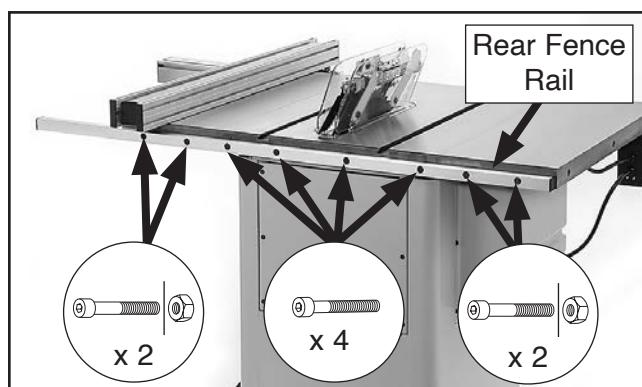

Figure 22. Rear fence rail mounting locations.
12. Install rear fence rail on rear of table using (8) M8-1.25 x 25 cap screws, as shown in **Figure 22**. Secure outer four cap screws with M8-1.25 hex nuts.